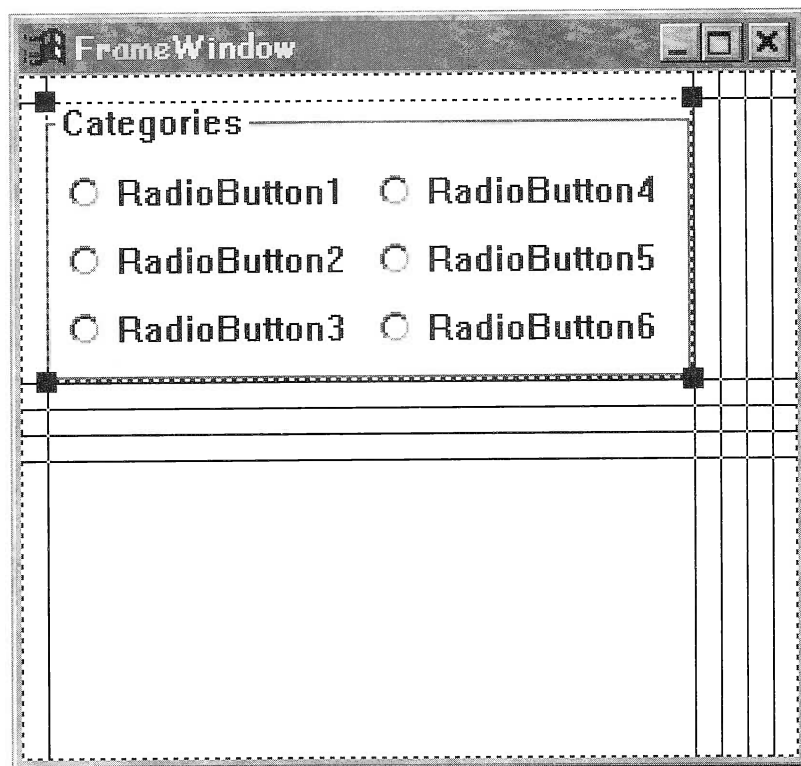

Figure 121: Set canvas after applying the correct settings
- ❑ Resize the set canvas so that all six radio buttons can be seen as shown in Figure 121.